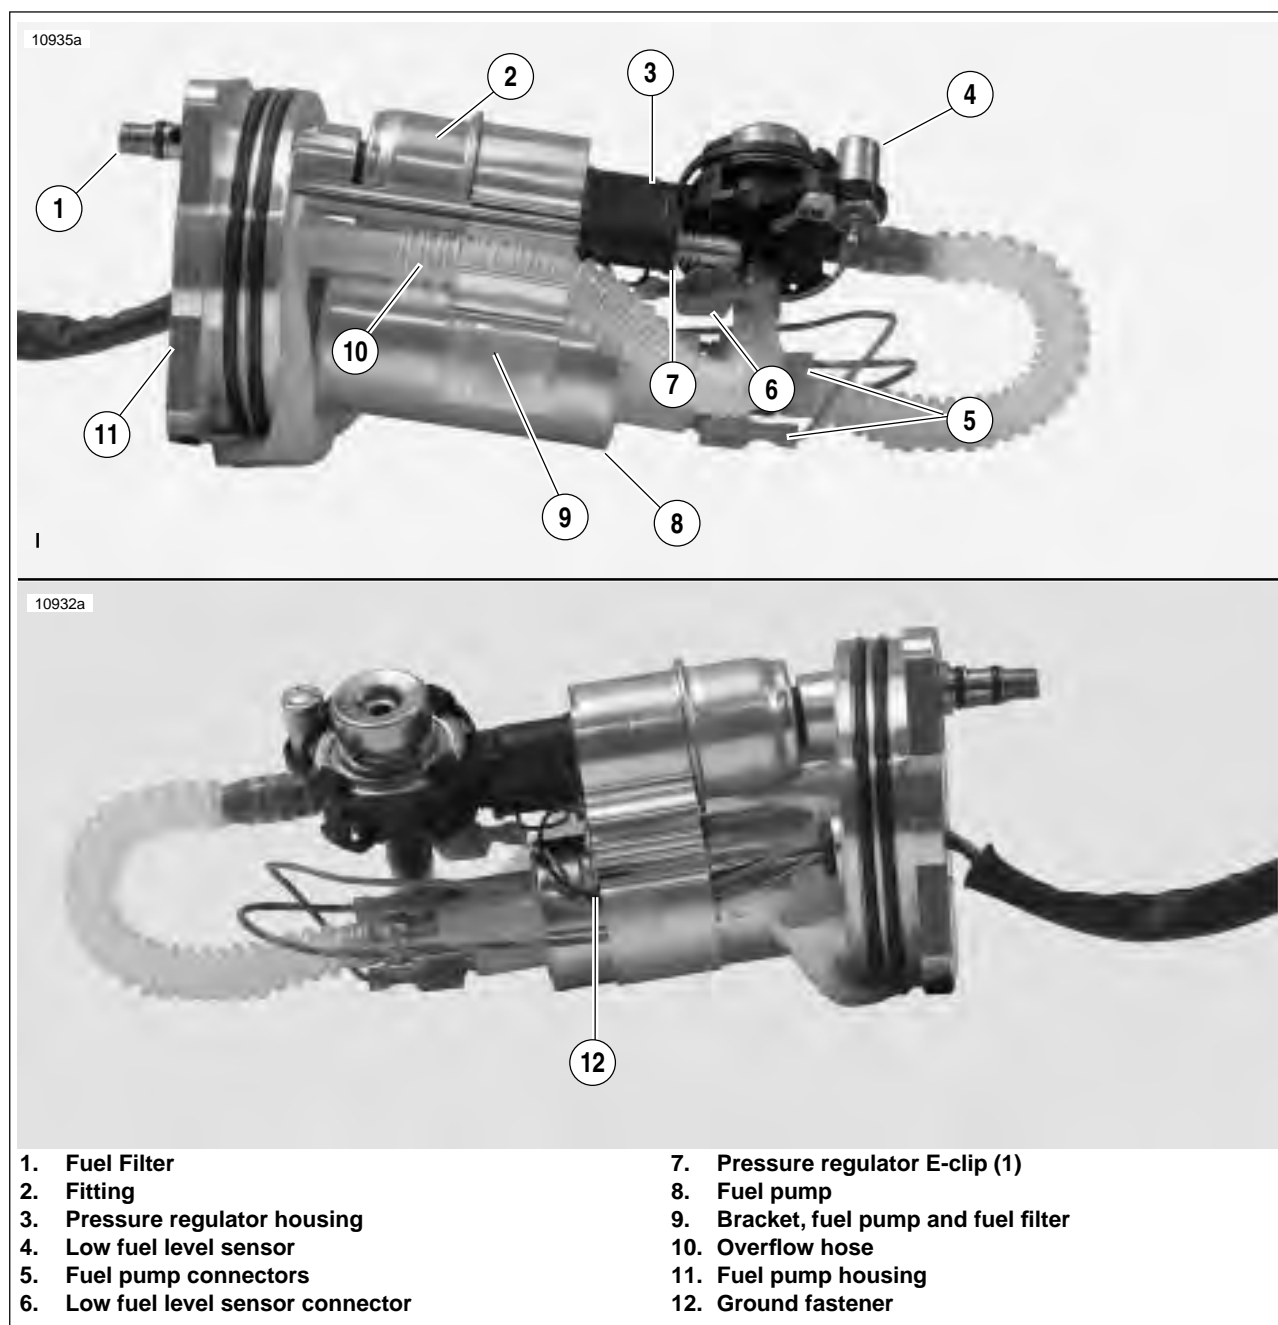

Figure 4-100. Fuel Pump Assembly (Left and Right Sides)
2. See Figure 4-100. Disconnect electrical connectors (5) & (6).
3. Remove ground fastener (12) from the fuel pump and fuel filter bracket (9).
4. Remove fuel pressure regulator E-clip (7).
5. Pull regulator housing (3) and fuel pump (8) with bracket (9).
6. Remove fuel filter (2).
7. Install rubber seals on **new** fuel filter and install filter into pump housing (11).
8. See Figure 4-100. Install regulator housing (3) and fuel pump (8) assembly.
9. Install E-clip (7) in bottom groove on shaft.
10. Install ground fastener (12) and connect ground wires to bracket (9) and tighten to 18-22 **in-lbs** (2.0-2.5 Nm).
11. Connect electrical connectors (5) & (6).
5. Pull regulator housing (3) and fuel pump (8) with bracket (9) as an assembly.
8. Install regulator housing assembly (4) & (5) and fuel pump (2).
9. Install E-clip (8) in bottom groove on shaft.
10. See Figure 4-100. Install ground fastener (12) and connect ground wires to bracket (9) and tighten to 18-22 **in-lbs** (2.0-2.5 Nm).
11. Connect fuel pump connectors (5) & (6).
2. See Figure 4-100. Disconnect fuel pump connector (5) and low fuel level sensor connector (6).
4. See Figure 4-100. Remove ground screw (12).
8. See Figure 4-100. Insert **new** fastener (12), through ground wire terminal and secure to bracket (9). Tighten to 18-22 **in-lbs** (2.0-2.5 Nm).
10. See Figure 4-100. Connect low fuel level sensor connector (6).
11. Connect fuel pump connectors (8). Connectors are two different sizes.